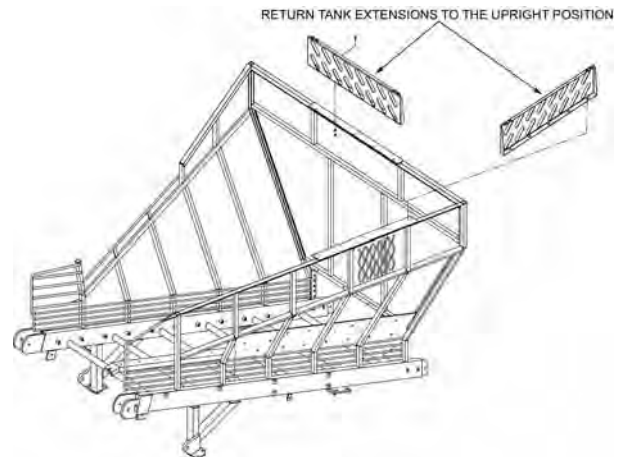
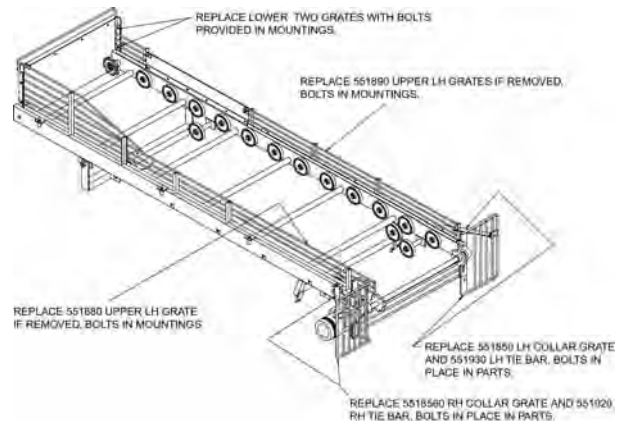

Figure 100 - Extensions For Tank
Figure 101 - Grates For Transfer Elevator
13. Install grates on transfer elevator and two tank extensions as shown in Figure 100 and Figure 101.